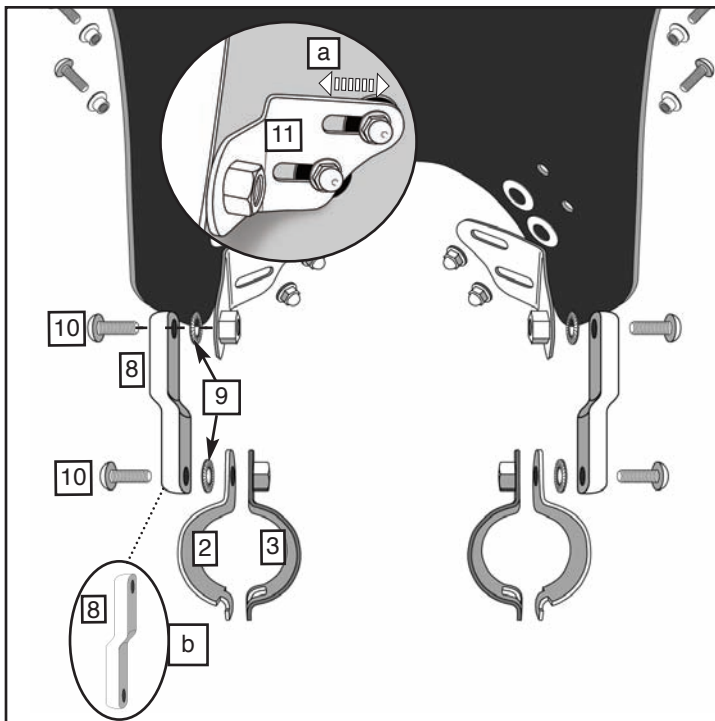

Figure 5
10. Install the Left Offset Bracket (8) to the Inner Bracket (11) with 1, Serrated Washer (9) and Screw (10). **Figure 5**
12. Hold Inner Clamp (3) to inside of fork tube, hook Outer Clamp (2) to the Inner Clamp. **Figure 5 and 6**
13. Secure Clamp Assemblies to the Offset Bracket (8) with remaining M8 Screws (10) and Washers (9). **(6mm Hex Wrench) Figure 5 and 6.**